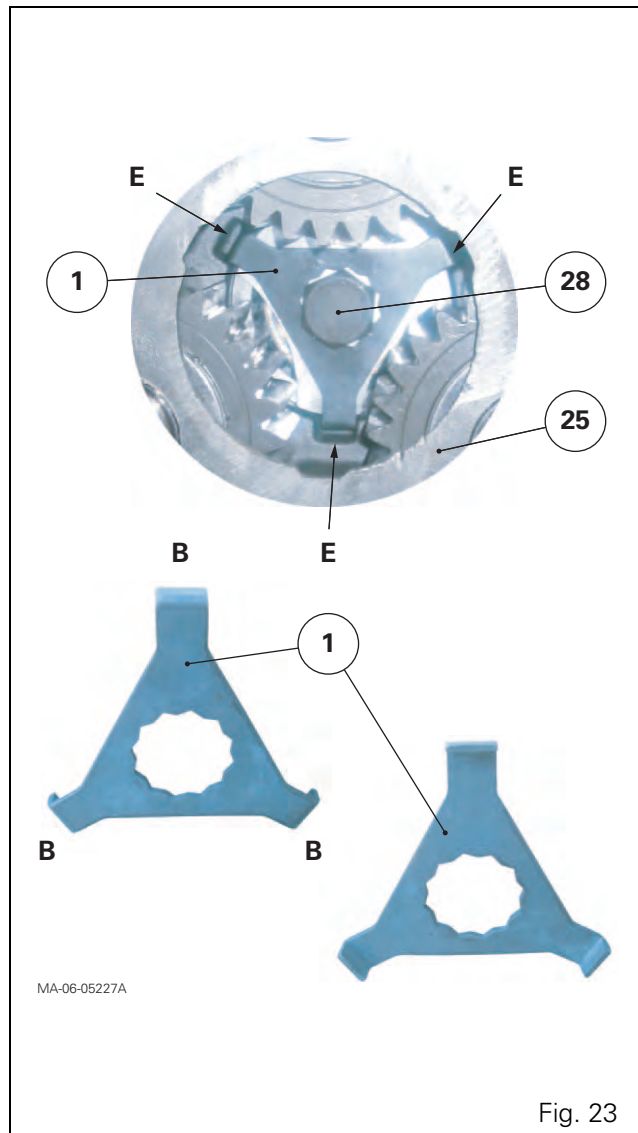

Fig. 23
69. Immobilise the axle shaft (2) or the planet carrier (25).
70. Refit the shim(s) (26) and the tripod washer (27).
71. Screw in and tighten the M24 screw (28) to 640 Nm.
72. Slide a lock washer (1) onto the head of the M24 screw (28). Ensure its tabs B are correctly housed in moulded slots E of the planet carrier (25) (Fig. 23). If this is not the case, repeat the step with the second lock washer; if this is still not the case, repeat the step with the third. Depending on the result (either no washer is suitable or a washer is selected), proceed to step 73 or 74.